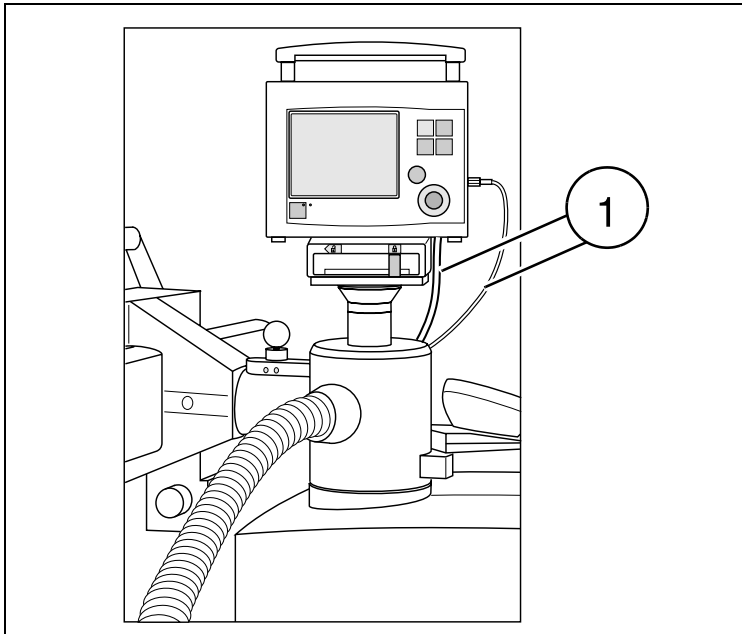

Fig. 38: Shock wave triggering with ECG
- Attach the ECG monitor to the docking station in accordance with the operating instructions (Fig. 38 / p. 35).
- Connect the two cables (1/ Fig. 38 / p. 35) to the ECG monitor.